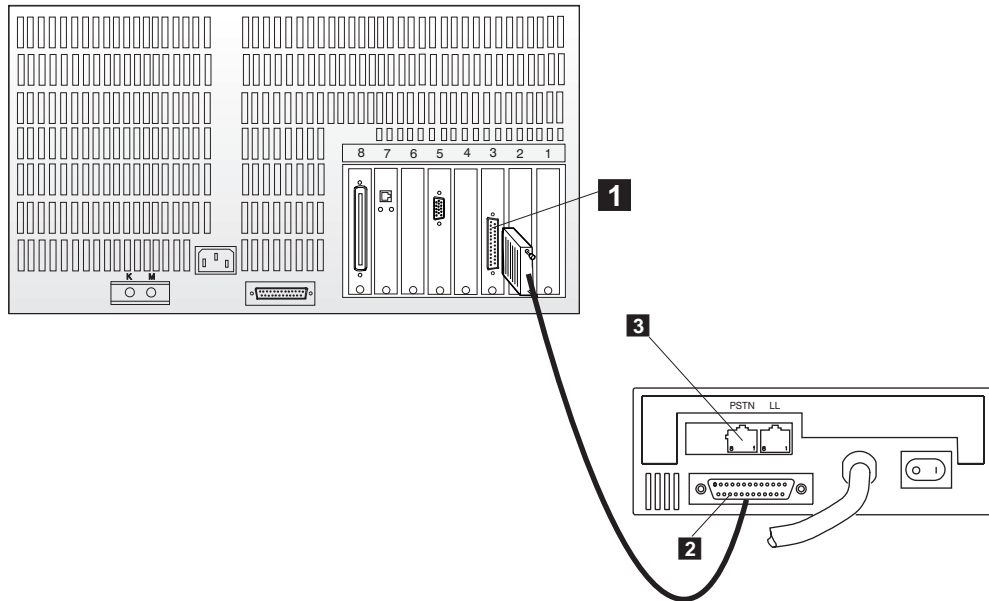

Figure 1-92. Connecting the Service Processor (3172) from the MPA Card to the 7855
- **3172**, refer to Figure 1-92.